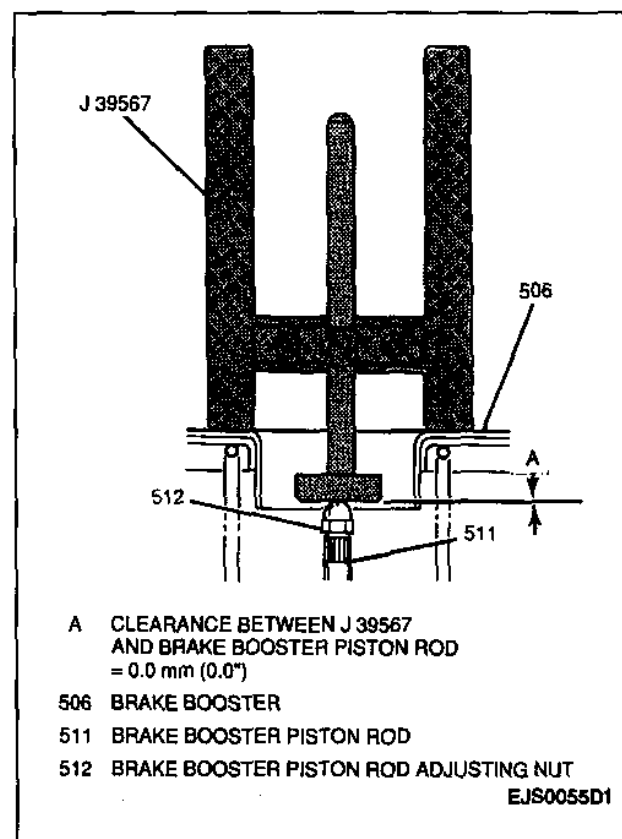

Figure 5—Installing J 39567 Onto Brake Booster
3. Turn the J 39567 upside down and set it on the brake booster (Figure 5).